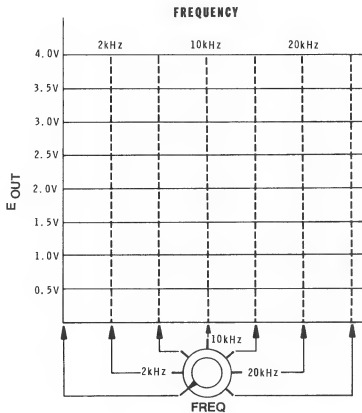

Figure 2-94
23. Connect the voltmeter across R. Using the above procedure plot the response curve for this circuit. Use the graph in Figure 2-94 to plot the curve.